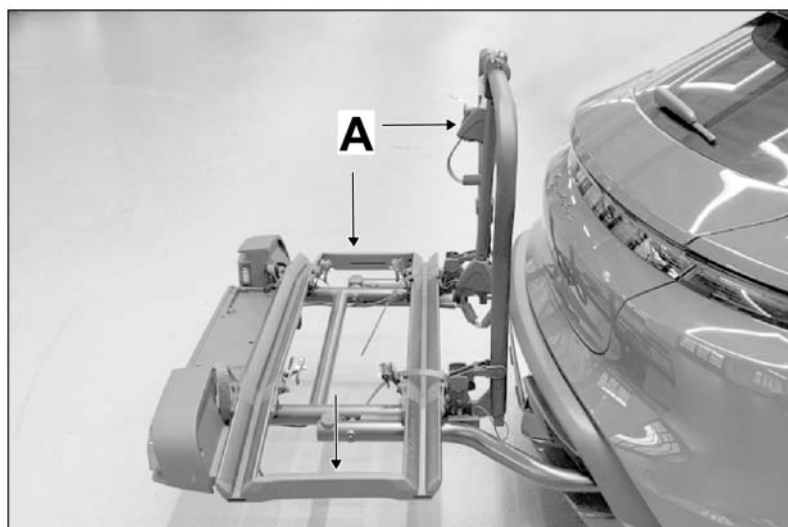

Figure 15
15. – Latch the flaps. Press the support bar ⇒ *Figure 15-LHD vehicle* - firmly towards the tailgate. The bar and wheel rails now engage in the end position.